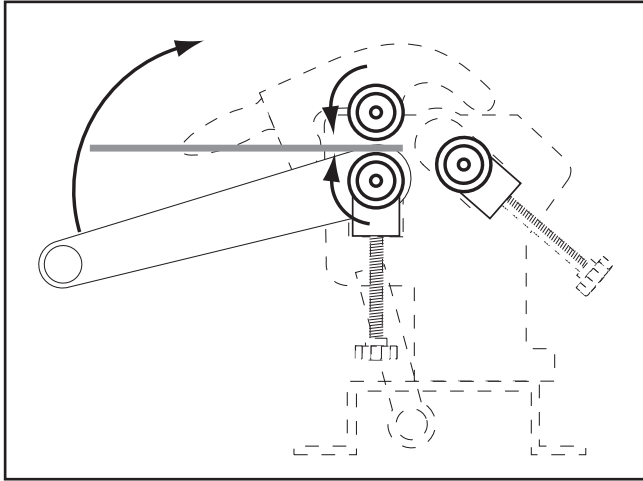

Figure 17. Feeding the workpiece.
- Turn the crank clockwise to feed the workpiece until its front edge is directly above the rear roller, as shown in **Figure 17**.